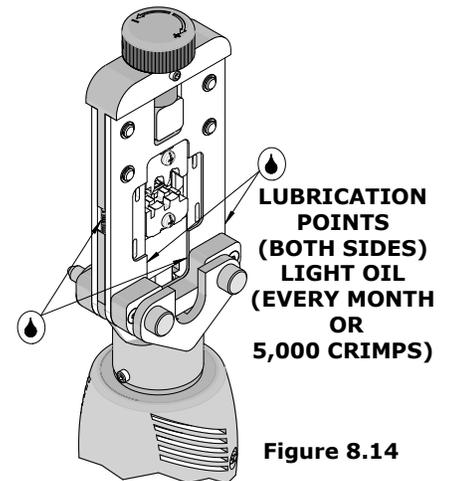

Figure 8.14
- Using a light oil such as SAE 30 weight automotive oil every 5,000 crimps or monthly will significantly enhance the tool life and ensure a stable calibration. Make certain all sliding surfaces in the tool head are protected with a thin coat of high-quality machine oil. See Figure 8.14 for lubrication points. Do not oil excessively, and wipe excess oil from the tool frame when complete.